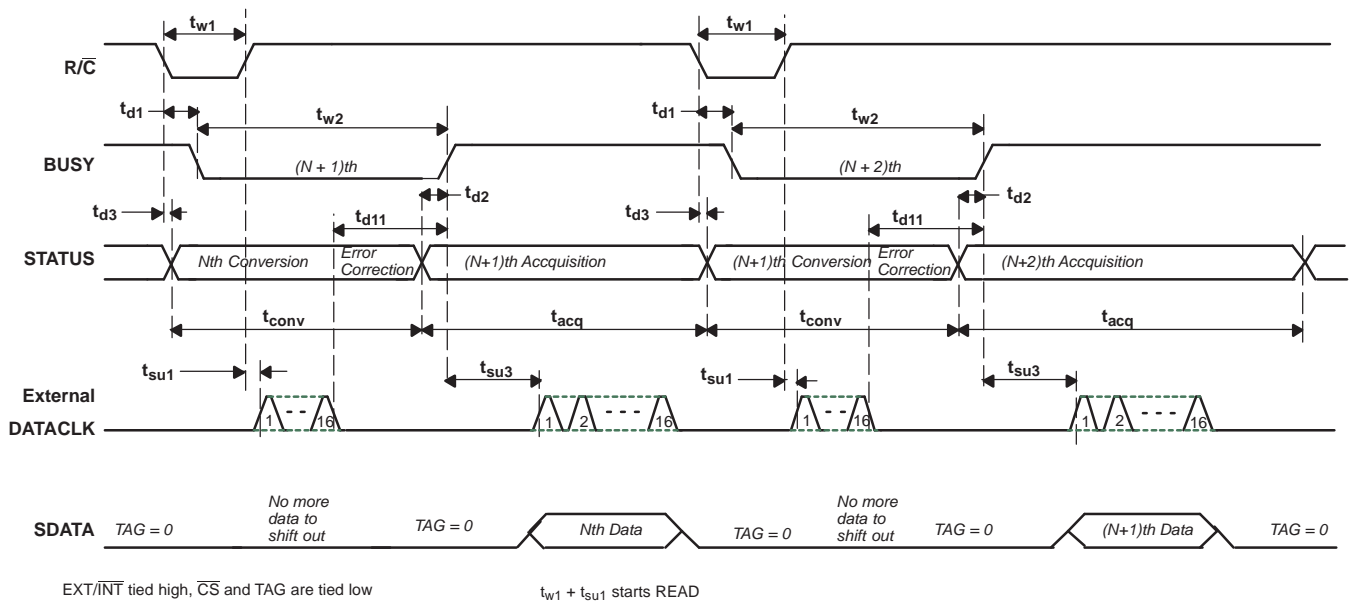
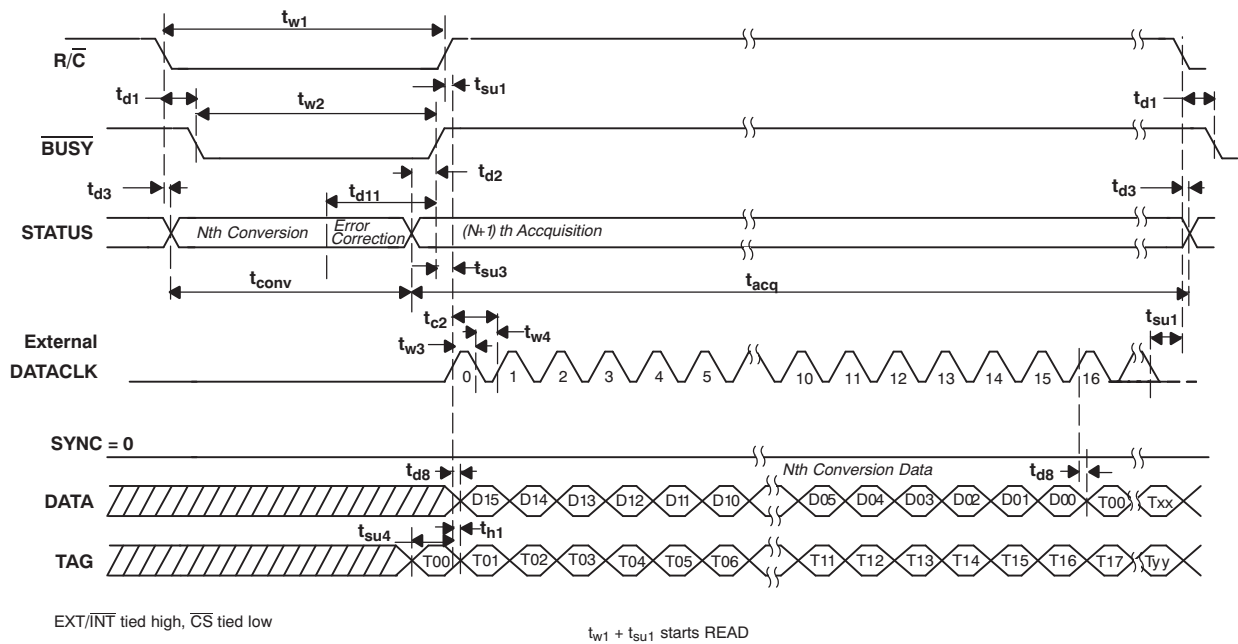
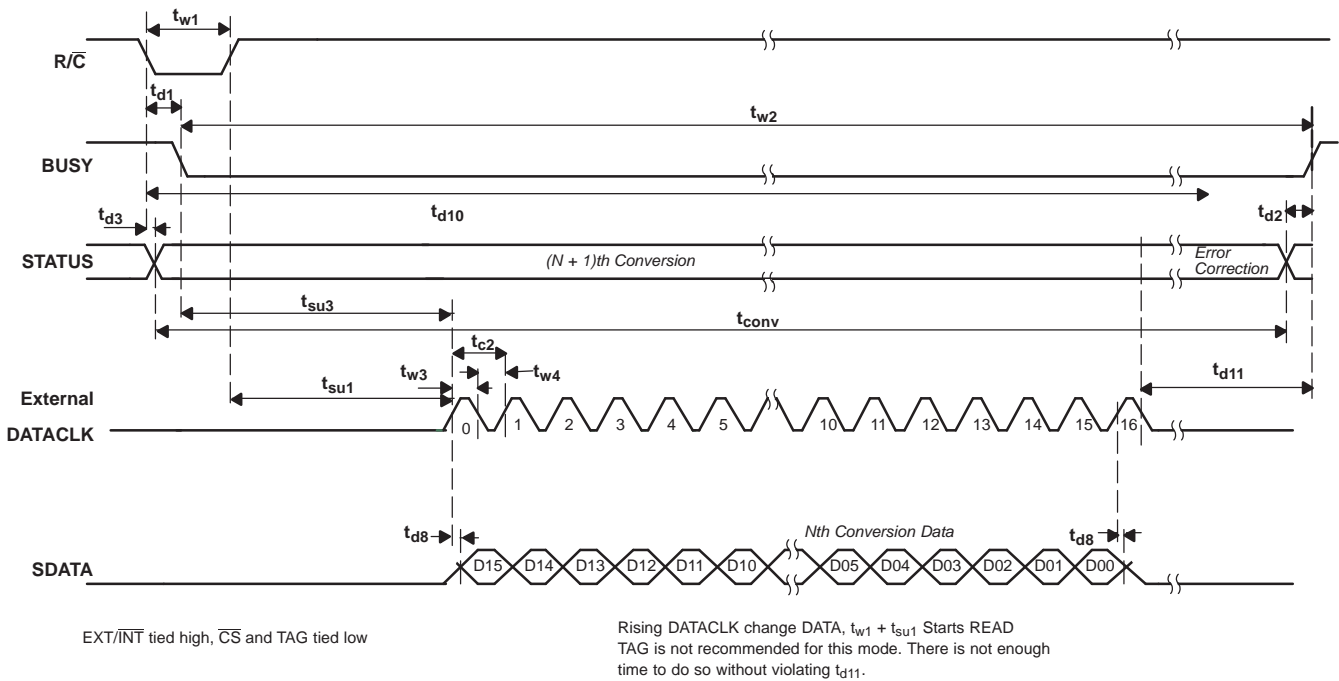

Figure 34. Basic Conversion Timing: External DATACLK
Figure 35. Read After Conversion (Discontinuous External DATACLK)
Figure 36. Read During Conversion (Discontinuous External DATACLK)
(1) See Figure 34, Figure 35, and Figure 36 for constraints on data valid from conversion *N*−1.
After conversion  $N$  is completed and the output registers have been updated,  $\overline{\text{BUSY}}$  (pin 24) goes high. With  $\overline{\text{CS}}$  low and  $\text{R}/\overline{\text{C}}$  high, valid data from conversion  $N$  are output on  $\text{SDATA}$  (pin 19) synchronized to the external data clock input on  $\text{DATACLK}$  (pin 18). The MSB is valid on the first falling edge and the second rising edge of the external data clock. The LSB is valid on the 16th falling edge and 17th rising edge of the data clock.  $\text{TAG}$  (pin 20) inputs a bit of data for every external clock pulse. The first bit input on  $\text{TAG}$  is valid on  $\text{SDATA}$  on the 17th falling edge and the 18th rising edge of  $\text{DATACLK}$ ; the second input bit is valid on the 18th falling edge and the 19th rising edge, etc. With a continuous data clock,  $\text{TAG}$  data is output on  $\text{SDATA}$  until the internal output registers are updated with the results from the next conversion. Refer to Table 6 and Figure 35 for more information.
The switching noise of the asynchronous data clock can cause digital feedthrough, degrading converter performance. Refer to Table 6 and Figure 36 for more information.
A falling-edge-triggered transfer would initiate an SPI transfer after the falling edge of  $\overline{\text{BUSY}}$ , providing the host controller with the previous conversion results, while the current conversion cycle is underway. The timing for this type of interface is described in detail in Figure 36. Care must be taken to ensure the entire 16-bit conversion result is retrieved from the ADS8517 before  $\overline{\text{BUSY}}$  returns high to avoid the potential corruption of the current conversion cycle.
A rising-edge-triggered transfer is the preferred method of obtaining the conversion results. This timing is depicted in Figure 35. This method of obtaining data ensures that SCLK is static during the conversion cycle and provides the host processor with current cycle conversion results.